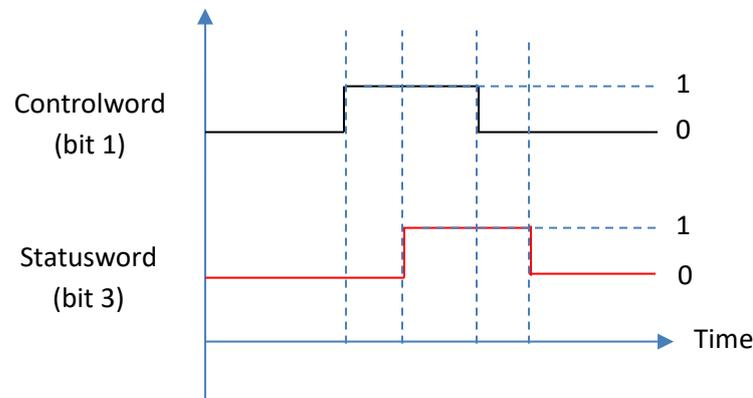

Figure 3.1. Controlword bit 1 and statusword bit 3 handshake mechanism.
- Set bit 1 of controlword back to 0, this will also be responded by bit 3 of statusword accordingly, as shown in Figure 3.1.